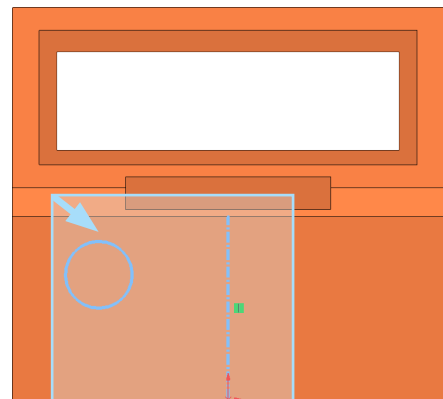

Fig. 74
Step 8. Drag a selection to select all, **Fig. 74**.